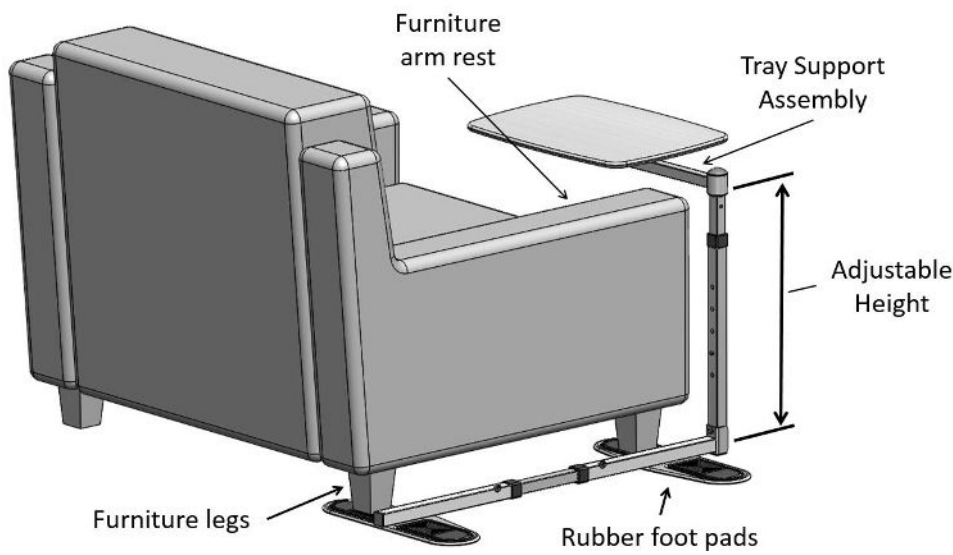
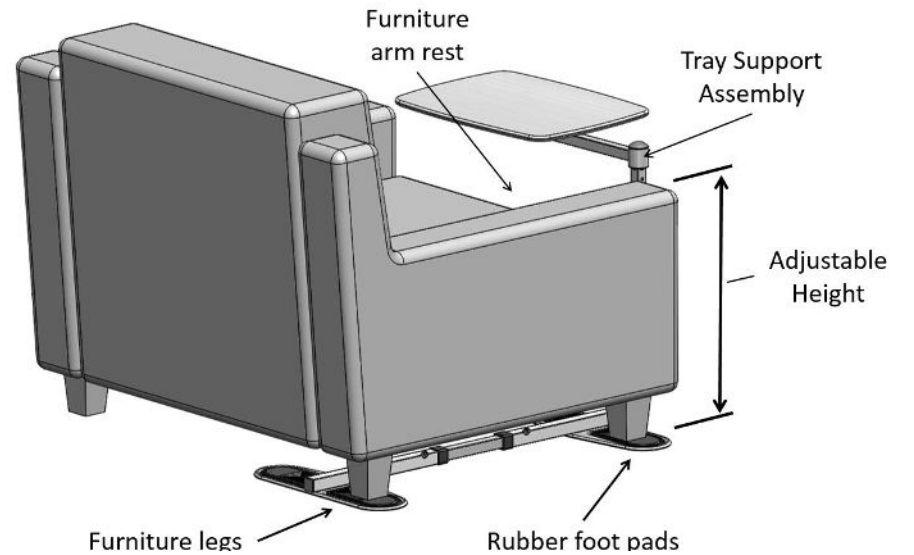

FIGURE 7
FIGURE 8
7. Adjust the Height of the Tray Support Assembly to pivot above the Furniture arm rest. **NOTE:** The Furniture legs can be positioned on either set of the Rubber foot pads as shown in FIGURE 7 and FIGURE 8.